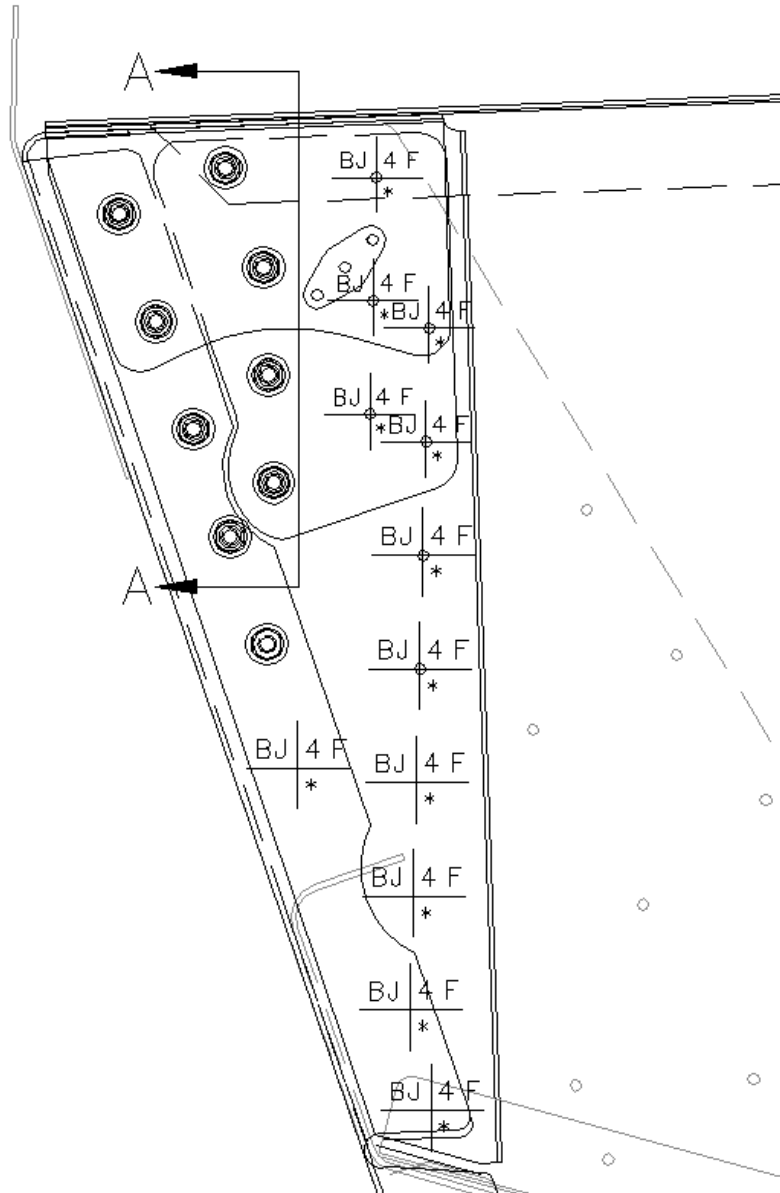
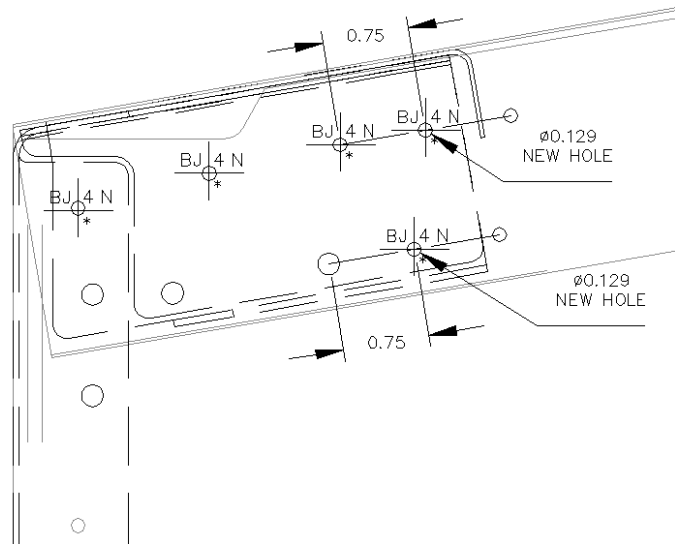

Figure 15 – Installation of Interior Aft Skin Doubler, Shim and Reinforcing Doubler
Figure 16 – Installation view looking down on top of Tailcone
10. Install Aft Interior Skin Doubler, shim and reinforcement doubler using rivets (Item 8) as shown in Figure 15 and Figure 16.
Two additional fasteners are added through the return flange of the Tailcone Skin and horizontal flange of the reinforcement doubler as shown in Figure 16.